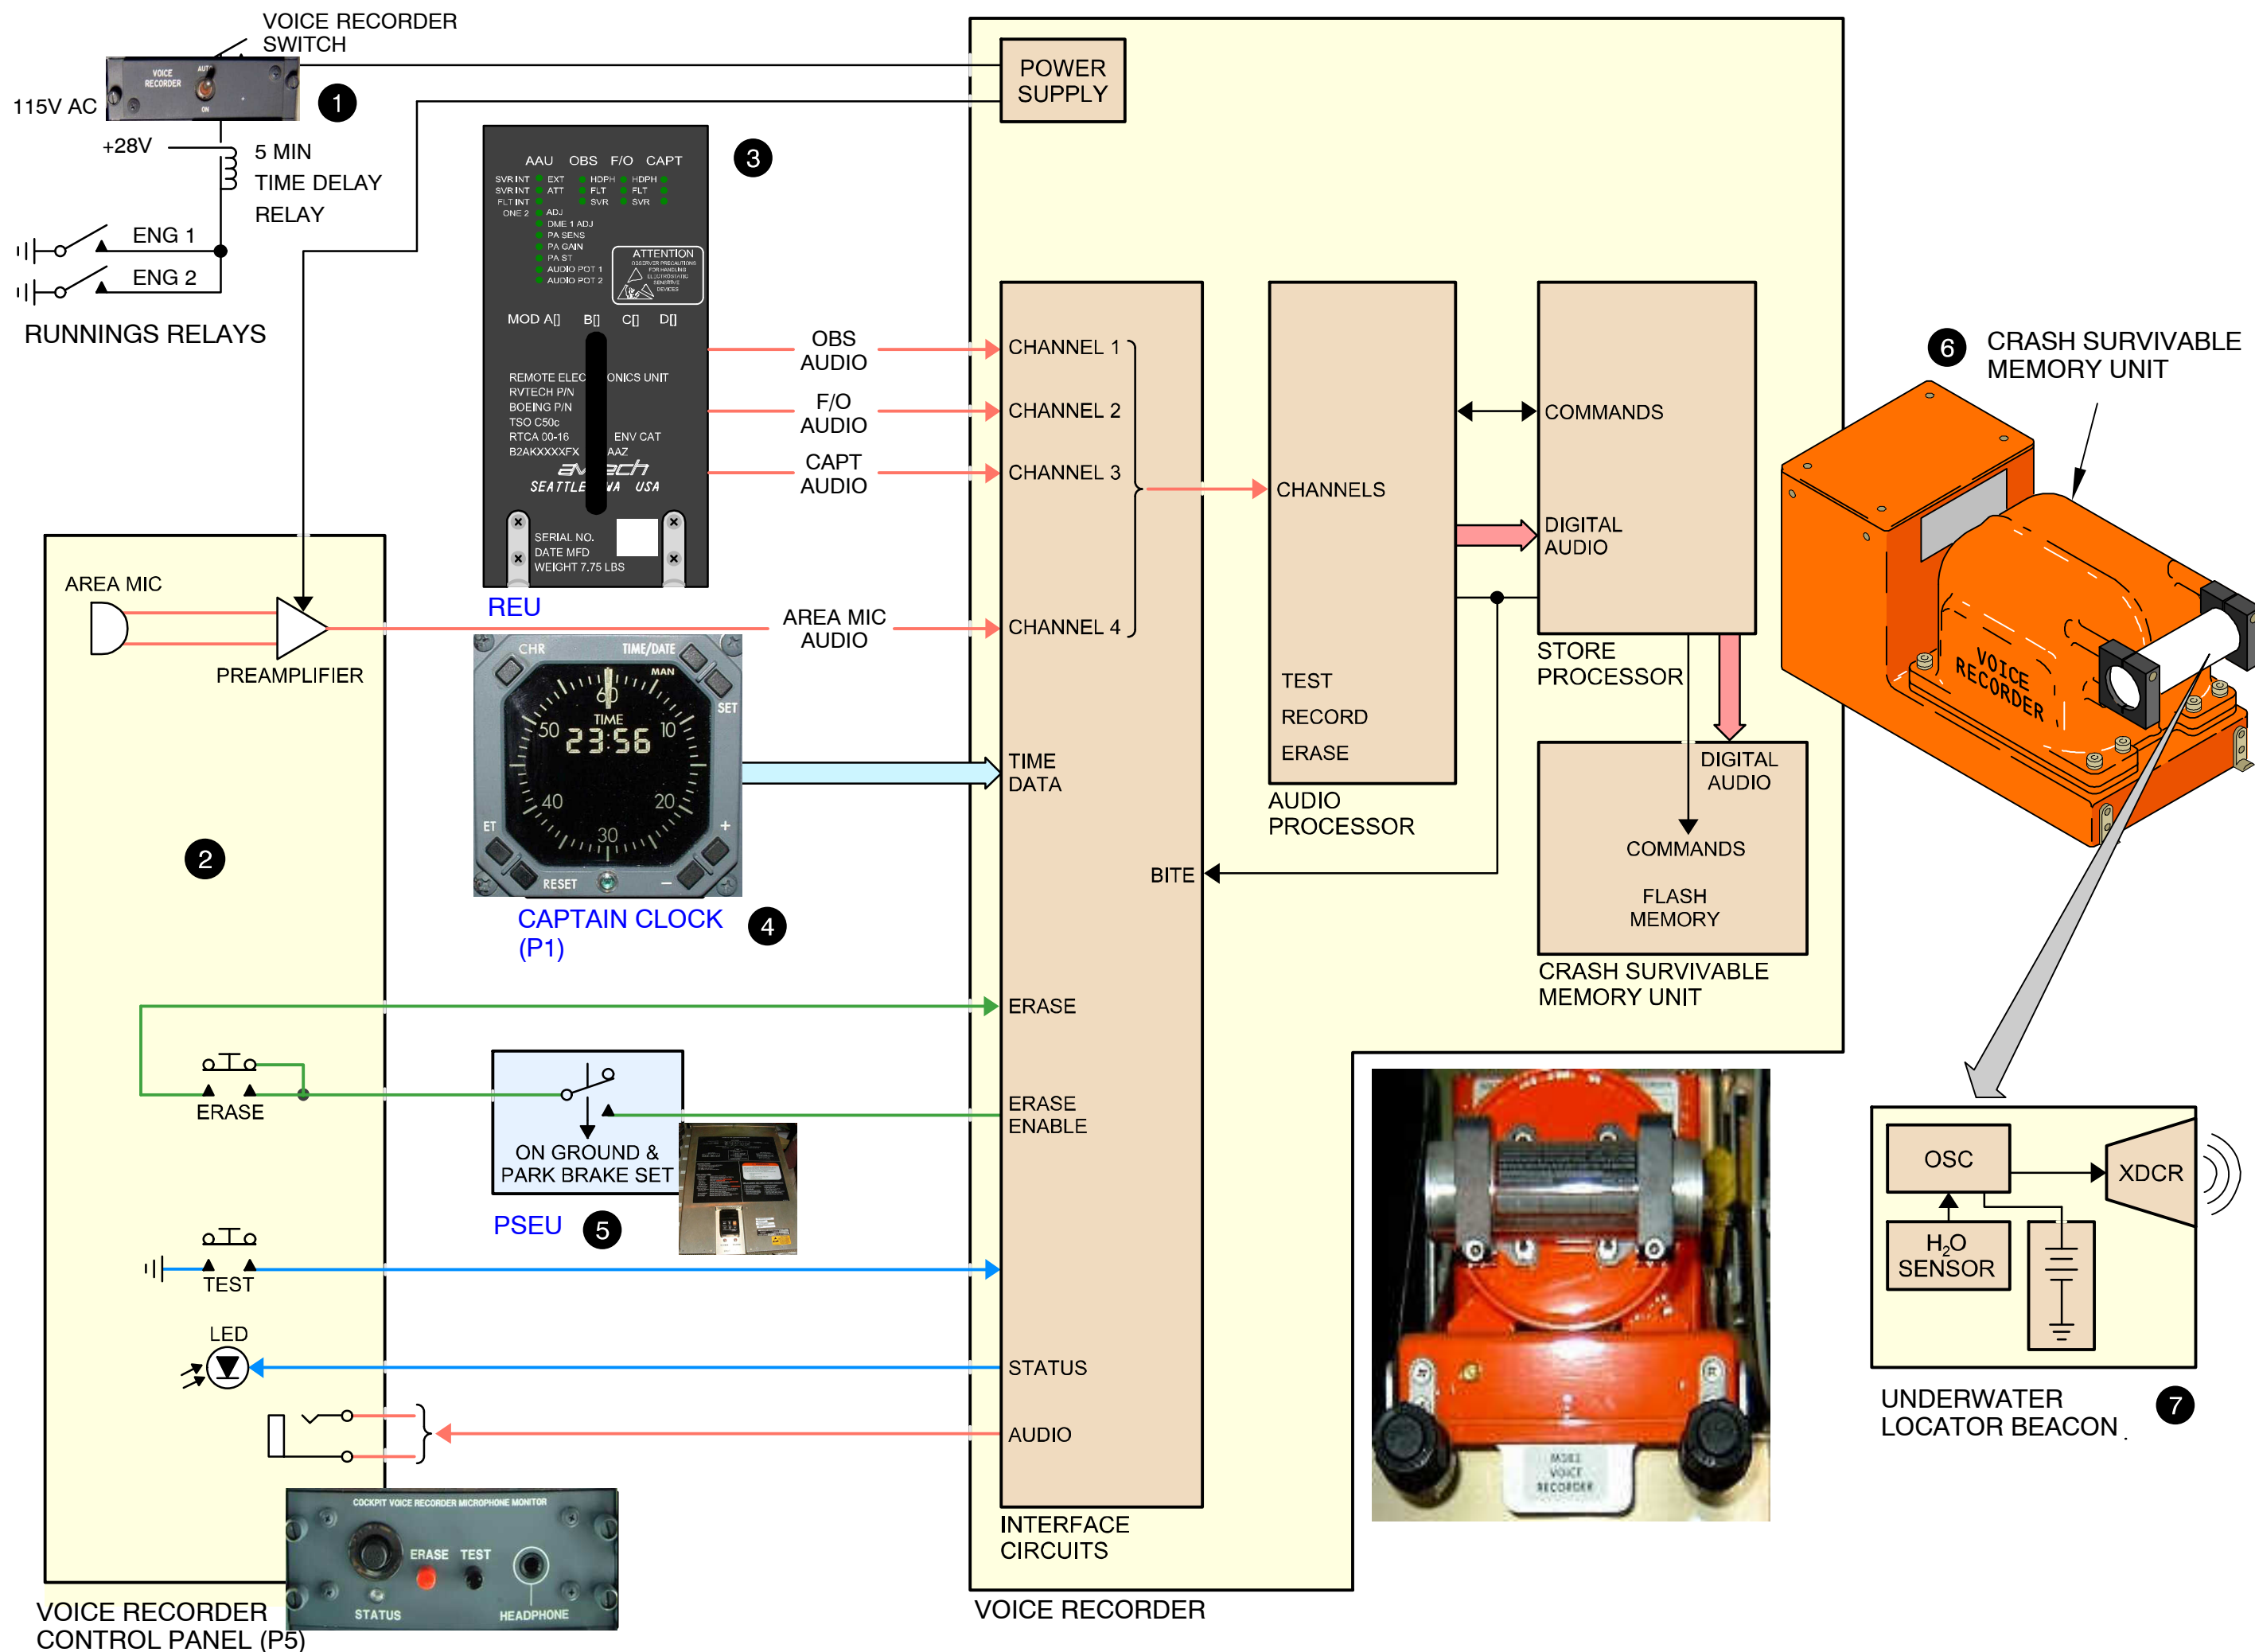

Figure 17 Voice Recorder (VR) System
Reference to Figure 17 Voice Recorder (VR) System